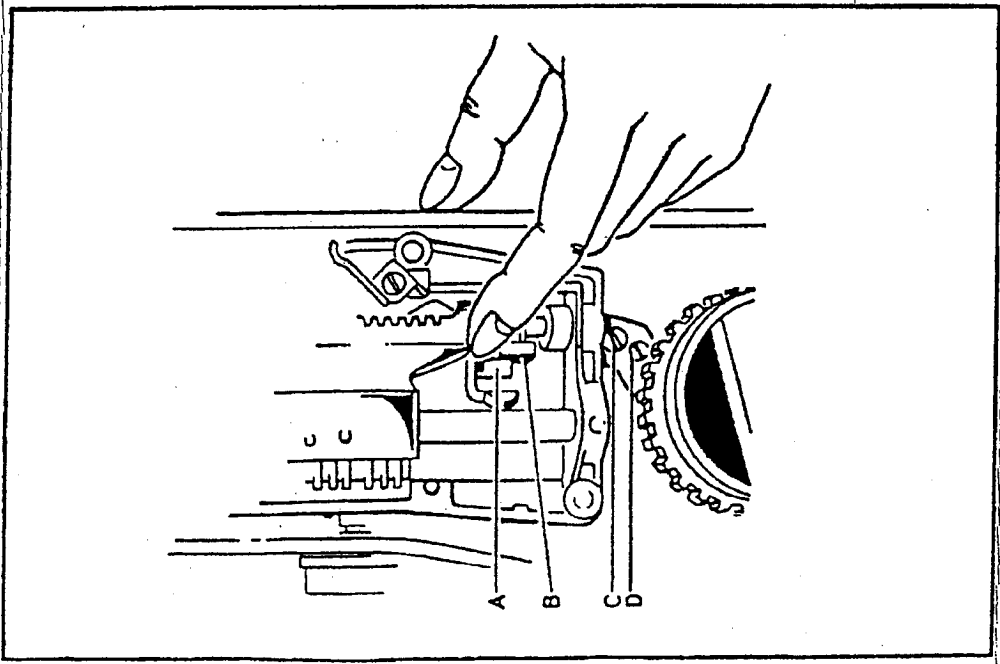
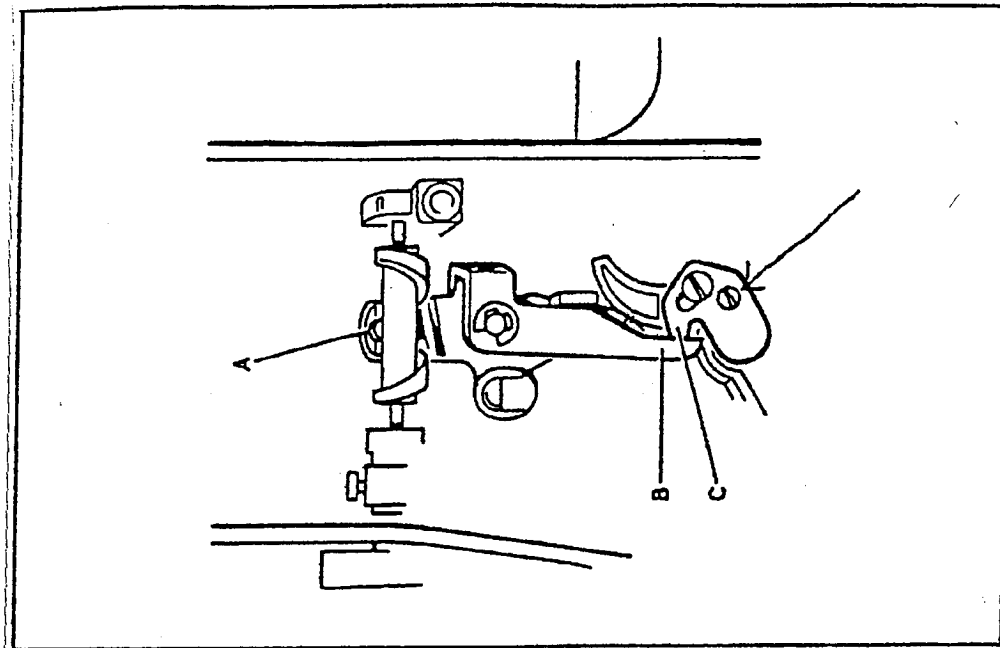

Fig. 7-
Fig. 8—
- Set stitch length regulating knob on no. 0 (pin A fig. 8);
- hold the automatic unit as shown in fig. 7, insert it inside the machine so that contact finger A rests before lever B;
**e) Adjustment of automatic feeding (fig. 7)*
- loosen screw C and, by means of a screwdriver, turn pin D so as to obtain the displacement of lever C (fig. 8) to the left, if it is necessary to lengthen the stitch backward, and vice versa if it is necessary to shorten it;
- by means of a screwdriver laid down on the back of lever C (fig. 8), tighten screw C (fig. 7),